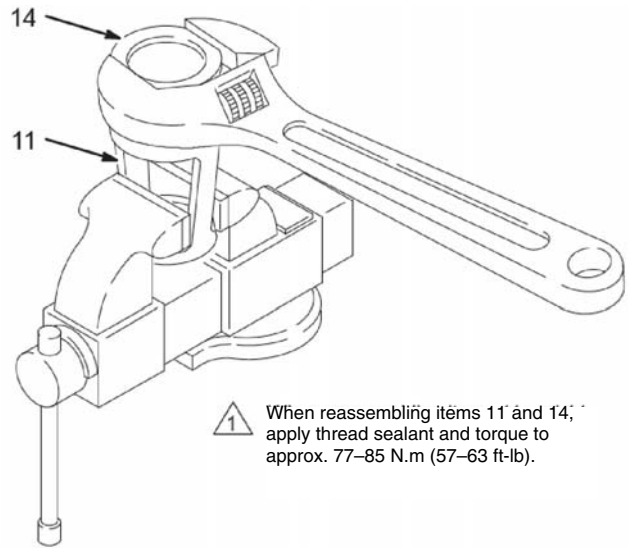
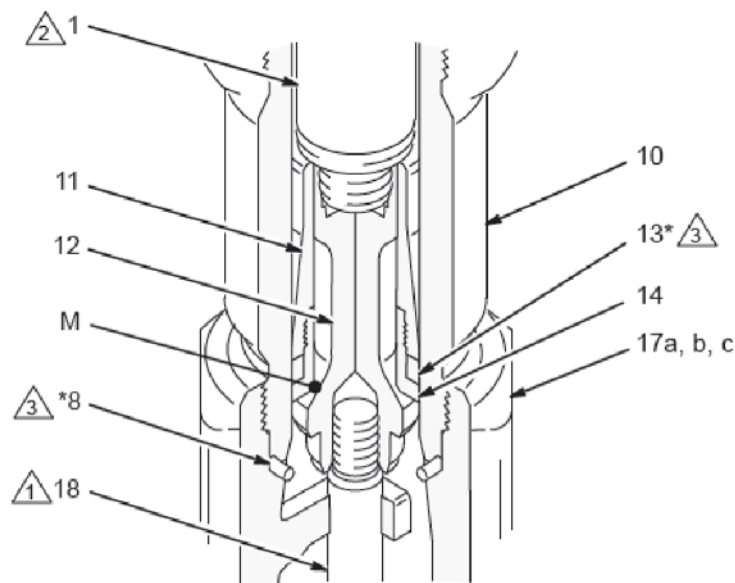

Fig. 11
Fig. 12
9. Remove the seal (8) from the bottom of the cylinder (10). See Fig. 12. Shine a light into the cylinder to examine the inside surface for scoring or damage. **Only if the cylinder is damaged, or there is evidence of leaking around the top cylinder seal (8),** unscrew the cylinder from the outlet housing, using a pipe wrench. Remove the top cylinder seal.
10. Place the flats of the displacement rod (1) in a vise. Unscrew the piston (12) from the displacement rod; the priming piston rod (18) will come with it. Slide the piston guide (11) and seat (14) off the piston (12).
11. It is not necessary to remove the priming piston rod (18) from the piston (12) unless your inspection reveals damage to either part. To disassemble, place the piston flats in a vise and unscrew the rod.
12. Place the piston guide (11) in a vise, as shown in Fig. 11. Using an adjustable wrench, unscrew the piston seat (14) from the guide. Remove the seal (13); always replace it with a new one. Inspect the mating surfaces (M) of the piston (12) and piston seat (14) for damage or wear. See Fig. 12.
-  1 Piston check valve (see Fig. 12).